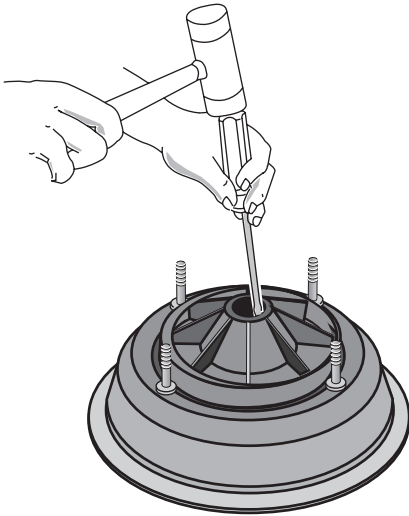

Figure 10
4. Place back half of pump on flat surface and tap out ceramic seat. See Figure 10.